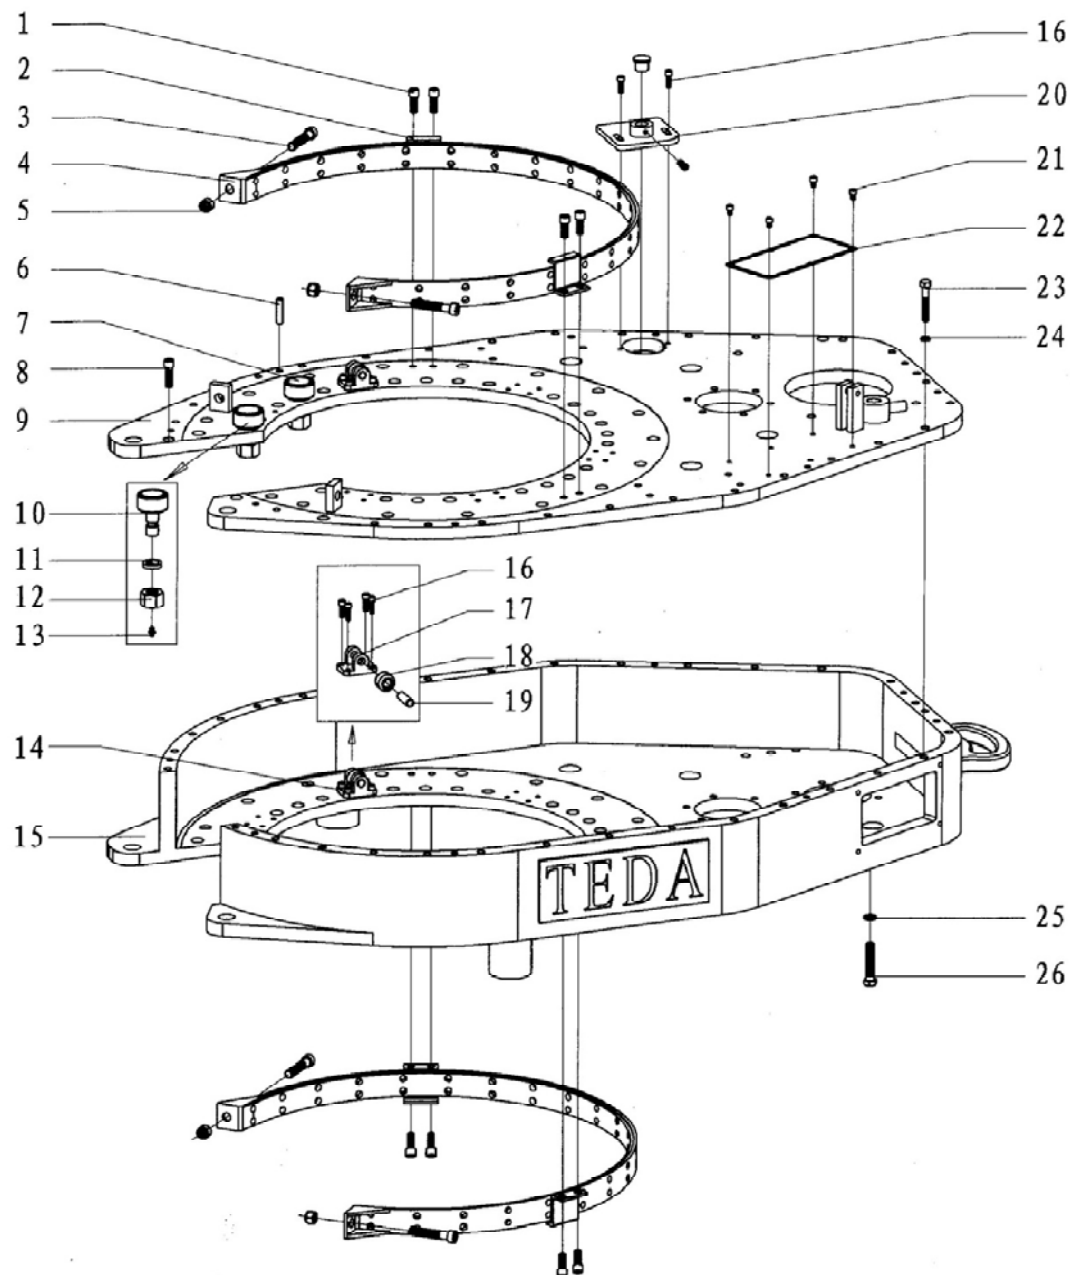

Fig 7
7.4. Tong shell with accessory(1) (Fig7, Table6)